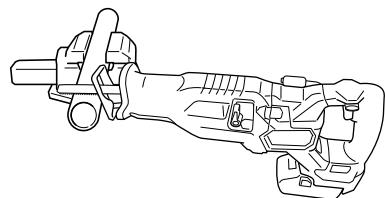

Fig. 25
(1) Fasten a workpiece firmly before operation. (Fig. 25)
(2) When cutting metallic materials, use proper machine oil (turbine oil, etc.). When not using liquid machine oil, apply grease over the workpiece.